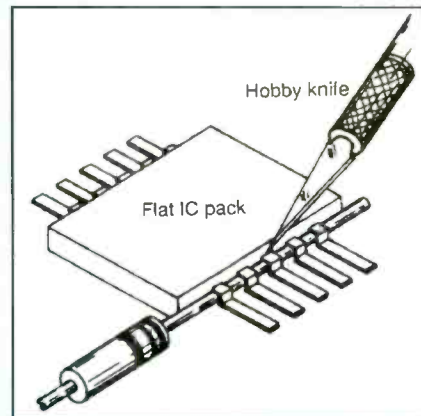

Figure 2. With a hobby knife, use just enough pressure to cut the pin between the heavy resistor or capacitor lead and the package.
2. With a sharp hobby knife, carefully cut the individual pins one at a time close to the body of the IC package. Use just enough pressure to cut the pin between the resistor or capacitor lead and the package (Figure 2).